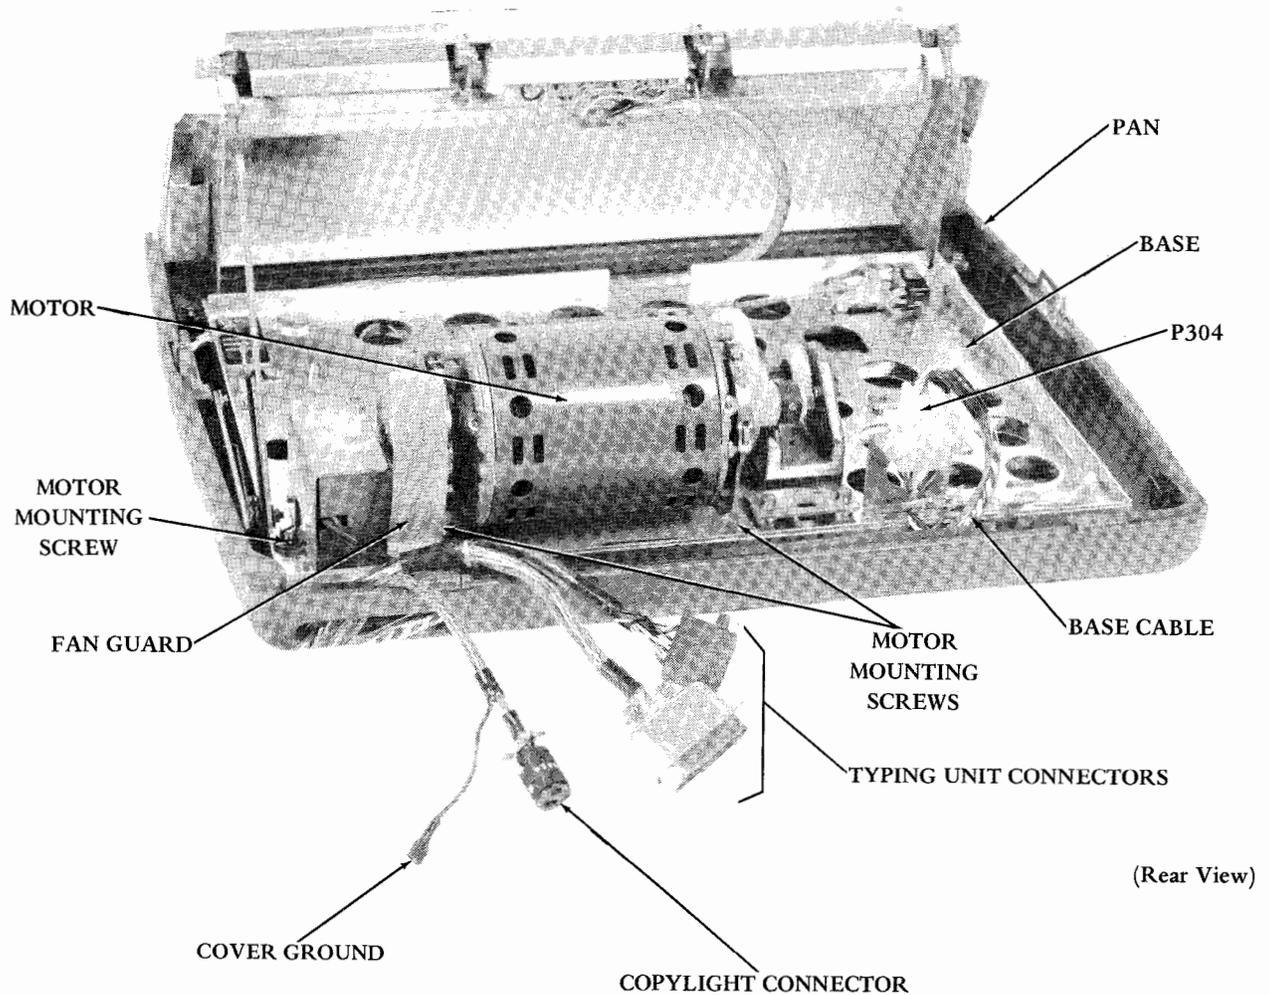

Figure 5 - Base, Pan, and Motor Unit
2.05 To remove the motor unit from the base, proceed as follows (Figure 5).
2.07 To remove the intermediate gear assembly from the base, proceed as follows (Figures 5 and 6).